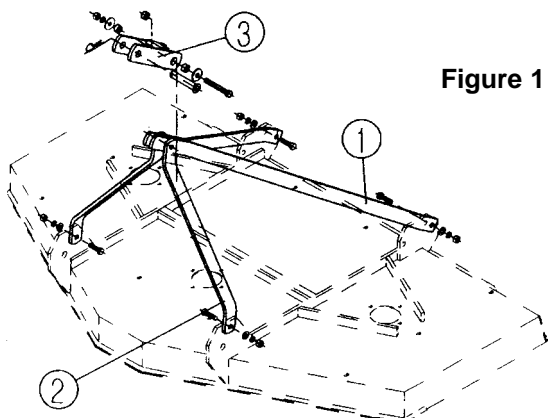

Figure 1
Attach the rear brace bars (1) to the lugs on the rear of the deck with M12 bolt, washer, lockwasher, and locknut. Attach the A-Frame bars (2) to the lugs on the front of the deck with M12 bolt, washer, lockwasher, and locknut. Attach the other end of the A-Frame bars (2) at the top and between the rear brace bars and top link (3) with M12 bolt, (2 each) washer, (3 each) spacer, lockwasher, and locknut. **See figure 1.**